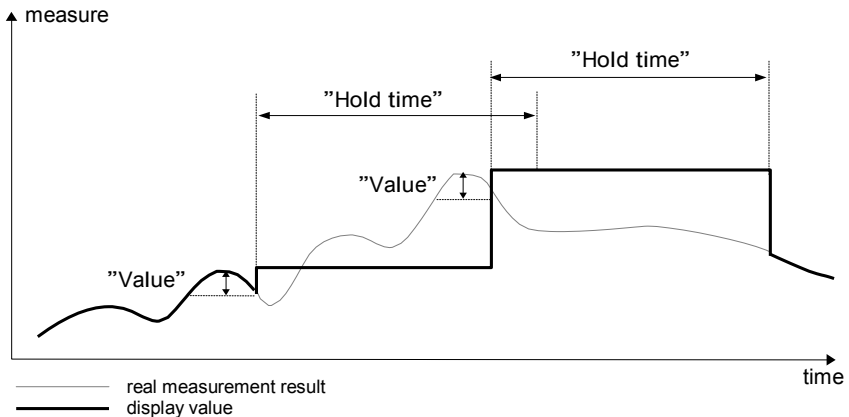

Fig. 7.37. Process of peak detection
- peak detect – function which allows to detect and visualize peak values in measured signal. Detection of the peak value can be done if the measured signal raises and drops (or the opposite) by value, which is settable by the user. Next, the detected value can be hold for settable by user period of time. If during the time when peak is detected, new peak is detected, then the peak value is updated and the time of hold is reset. When this time will elapse, or no peak is detected, the device will display current value of the signal (see Fig. 7.37).